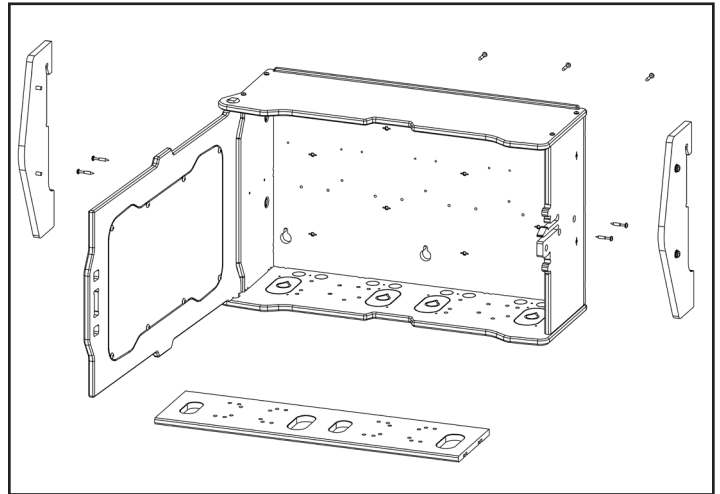

Fig. 5.1: Removing shelf
1. Open the cabinet and remove the Middle Shelf if installed [Figure 5.1]